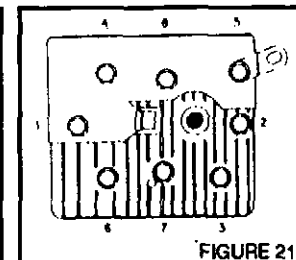

FIGURE 21
4. Use socket wrench with 6 inch handle and turn all screws 1/4 turn. Tighten screws in sequence illustrated (Fig. 21, 22 and 23). Run engine approximately 5 minutes and retighten all screws approximately 1/4 turn.